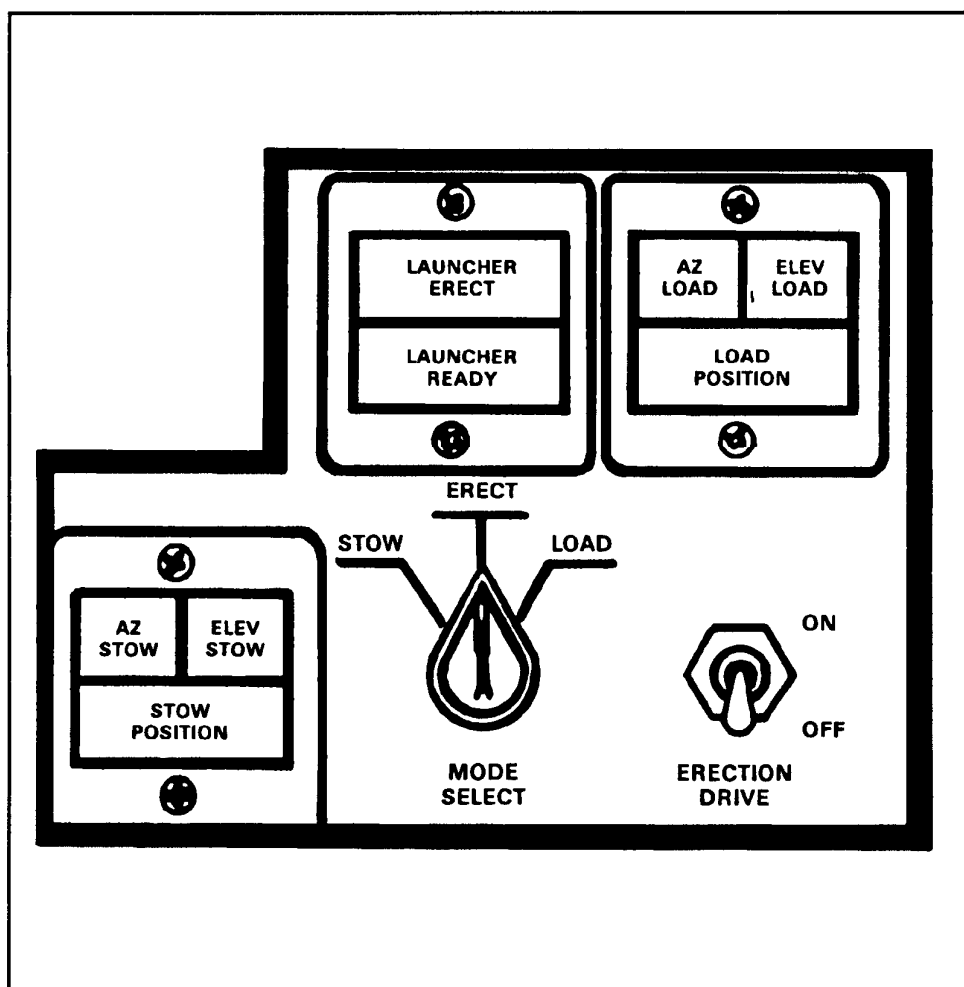

Figure 4-3. MODE SELECT knob and ERECTION DRIVE switch.
(1) The gunner turns the TURRET POWER switch to the ON position. AZ STOW, ELEV STOW, and STOW POSITION indicators will be on.
(2) The gunner turns the MODE SELECT knob to ERECT (Figure 4-3). He pushes up on the ERECTION DRIVE switch and holds it in the ON position until—